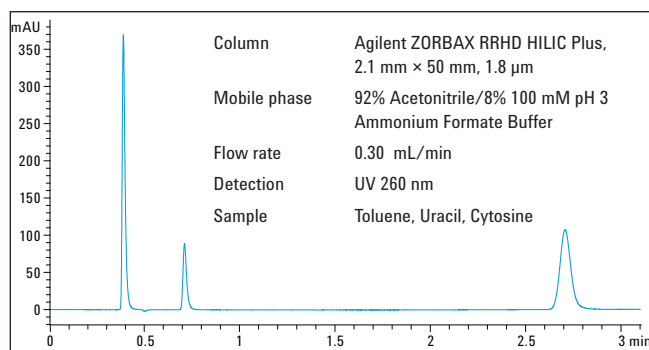

Figure 1. Agilent ZORBAX RRHD HILIC Plus QC chromatogram.
A typical quality control (QC) chromatogram for an Agilent ZORBAX RRHD HILIC Plus 2.1 mm × 50 mm, 1.8 μm column is shown in Figure 1. The QC test with the performance of the column is shown on the Column Performance Report enclosed with the column. The efficiency found on the QC Performance Report may be higher than the efficiency found in your laboratory. The QC test system may vary from the LC used in your lab, and has been modified from a standard system to minimize volume. This allows a better evaluation of the column and assures a more consistent product for the chromatographer.